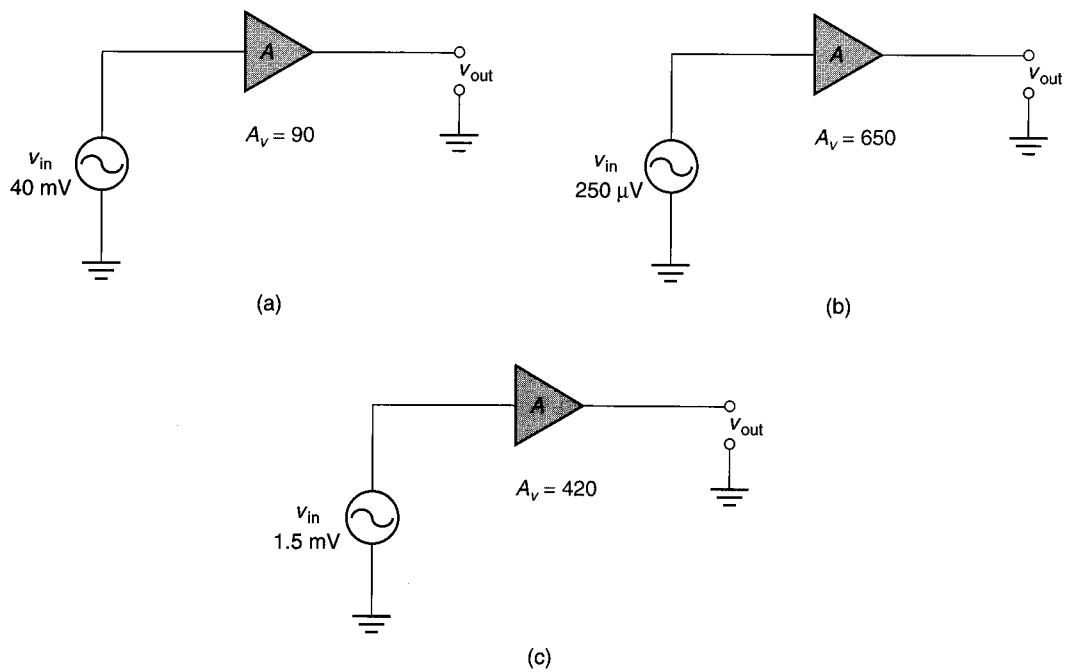

FIGURE 8.26
- Calculate the value of  $v_{out}$  for each of the amplifiers shown in Figure 8.26.